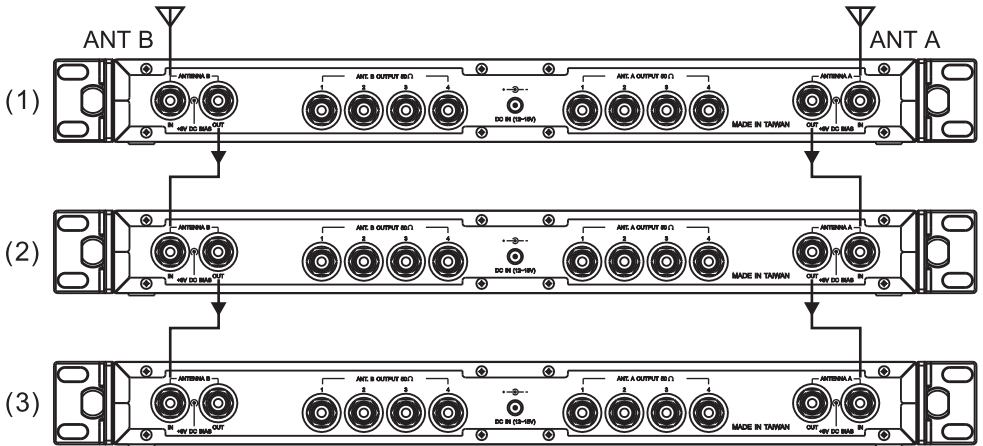

Fig. 3
2. Second Application, Fig. 3: